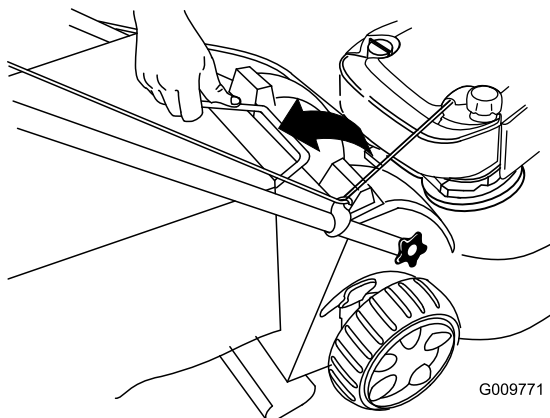

Figure 29
2. Lift the grass-bag handle out from the grooves at the top of the machine and remove the bag from the machine (Figure 29).